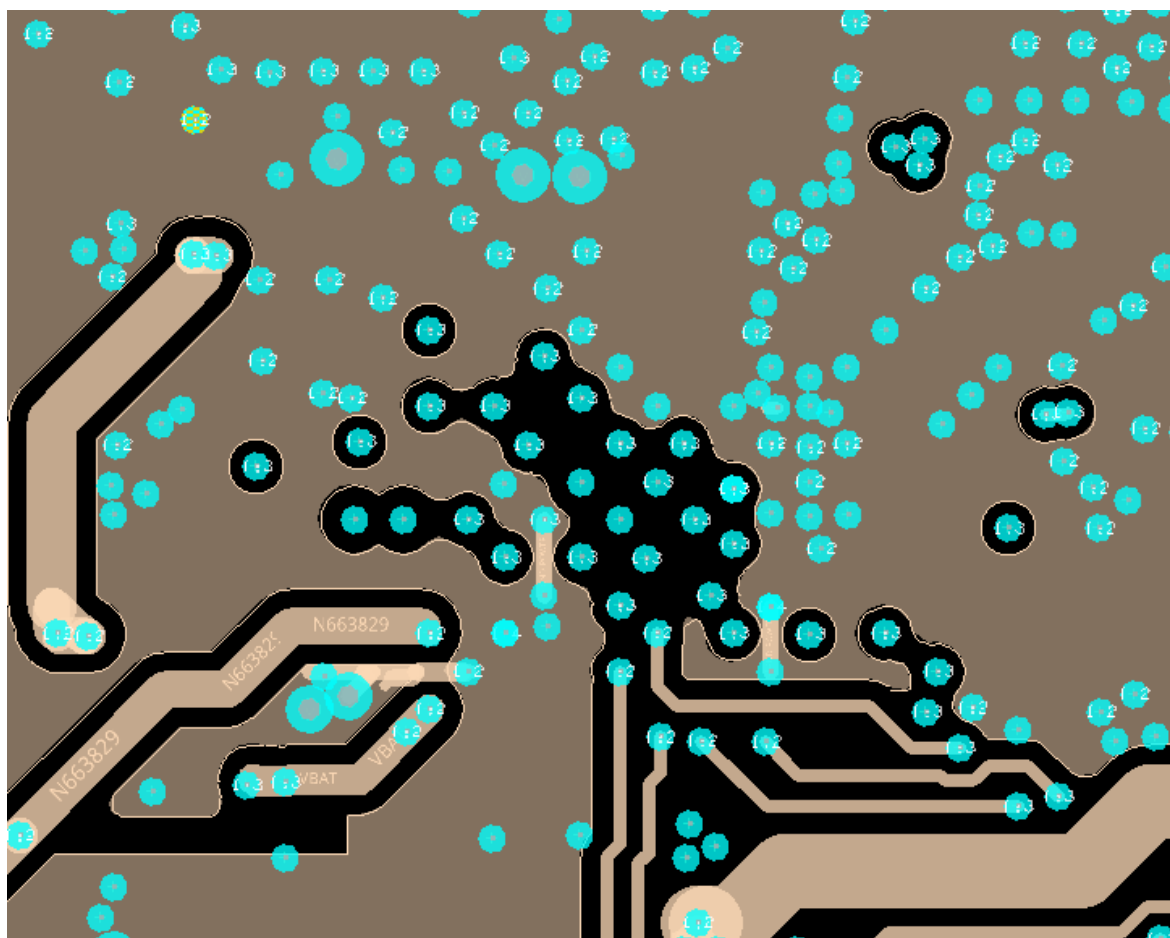

Figure 20. L2 internal layer, RA6W1- WLCSP
- L2 internal layer is considered the reference GND plane for the RF of the chip. It is free of traces under the Chip and RF front-end area. This is important so there are no GND islands, which increase the distance of the grounding current. This is the layer where the RF traces impedance is referred to. GND vias from the chip are connected to this layer, see Figure 20.